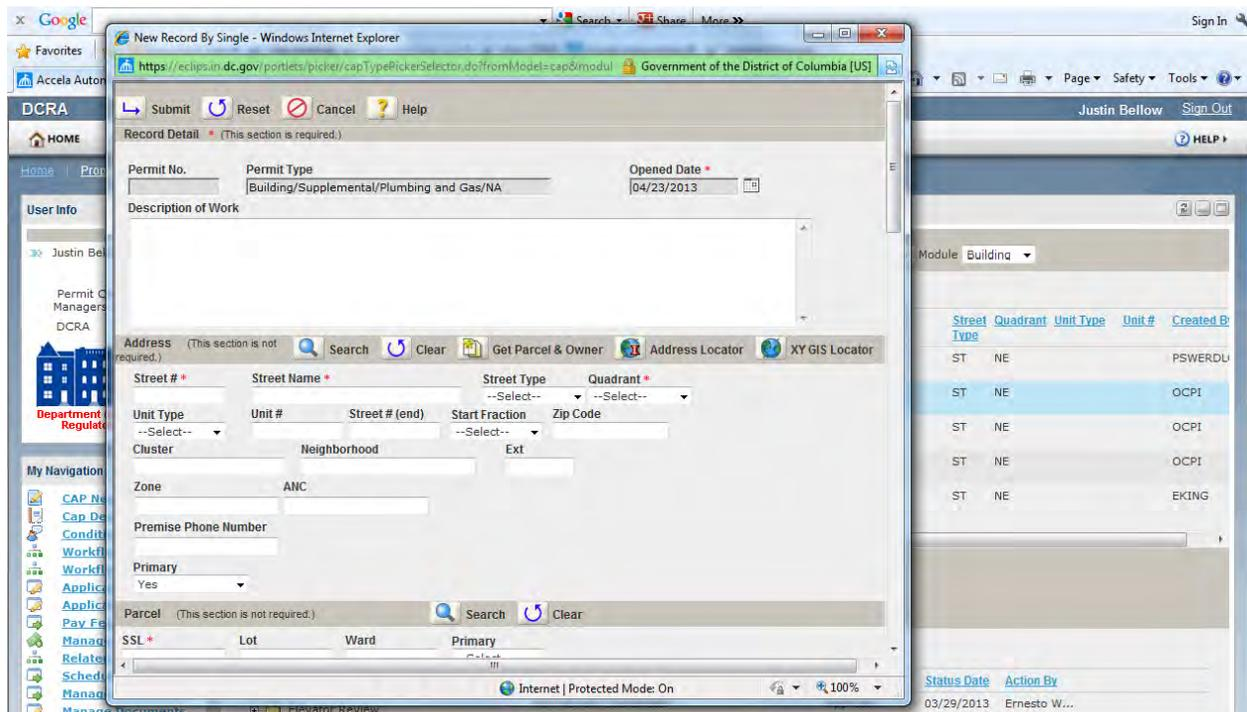

Figure 2.3
6. After selecting “Plumbing and Gas” from the “Subtype” drop down menu, Accela will automatically open a new window where the permit information will be entered. (see Figure 2.3)